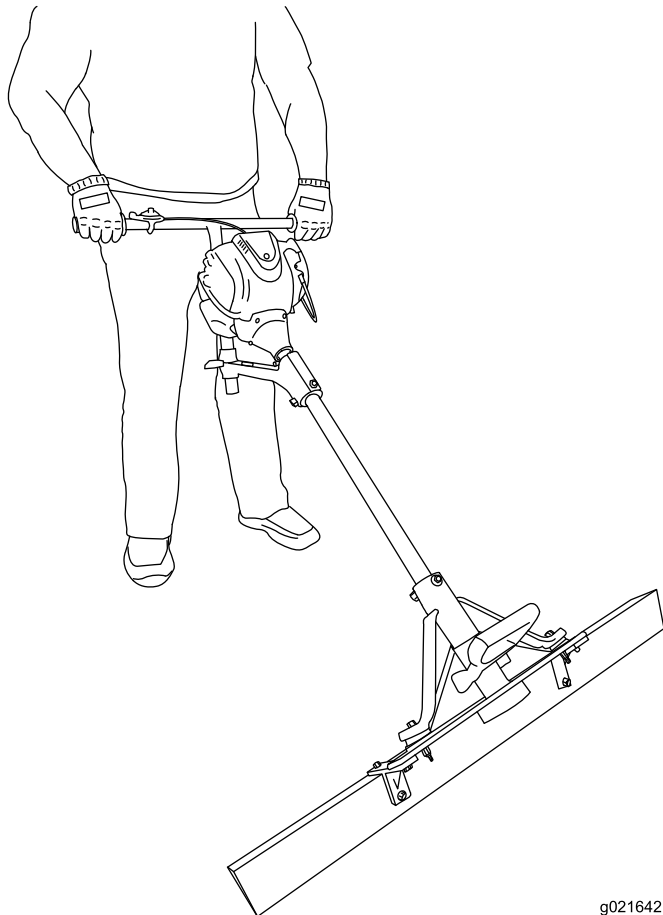

Figure 13
- Use the operating position (Figure 13) when running the machine to screed concrete.